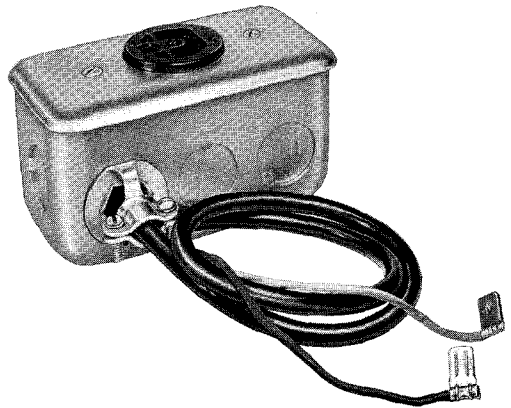

Fig. 2—KS-19580, List 51 Receptacle Assembly
2.12 In multiple installations, a KS-19580, List 51 receptacle assembly (Fig. 2) must be used in conjunction with a KS-19261, List 1 light control unit as follows.